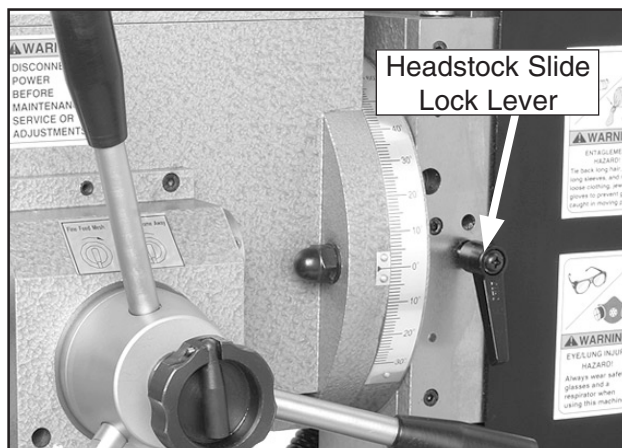

Figure 13. Headstock slide controls.
1. Unlock the headstock slide lock lever shown in **Figure 13**.